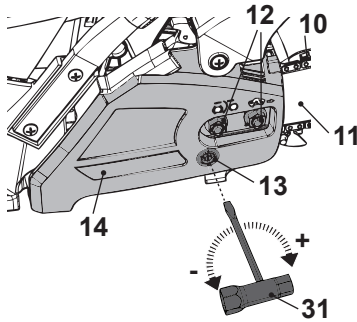

Fig. 8
1. Lift up the tip of the guide bar (11) and keep it there as you adjust the tension.
2. Turn the tension screw (13) clockwise until the chain 'tie straps' are just touching the bottom edge of the guide bar (11) (Figs. 8, 9).